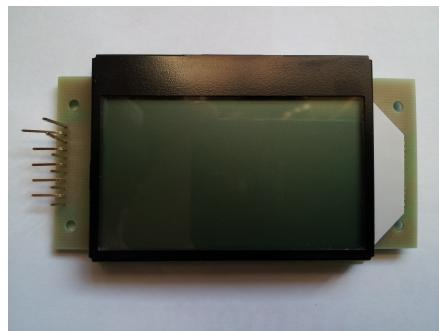

Figure 2: ST7565 GLCD
2. An ST7565 128x64 graphical liquid crystal display (GLCD) (Figure 2). The model shown is available from Core Electronics and Adafruit. Note that eleven 0.1" (2.54mm) male header pins must be soldered to the board if using this particular model; however it is simple through-hole soldering.